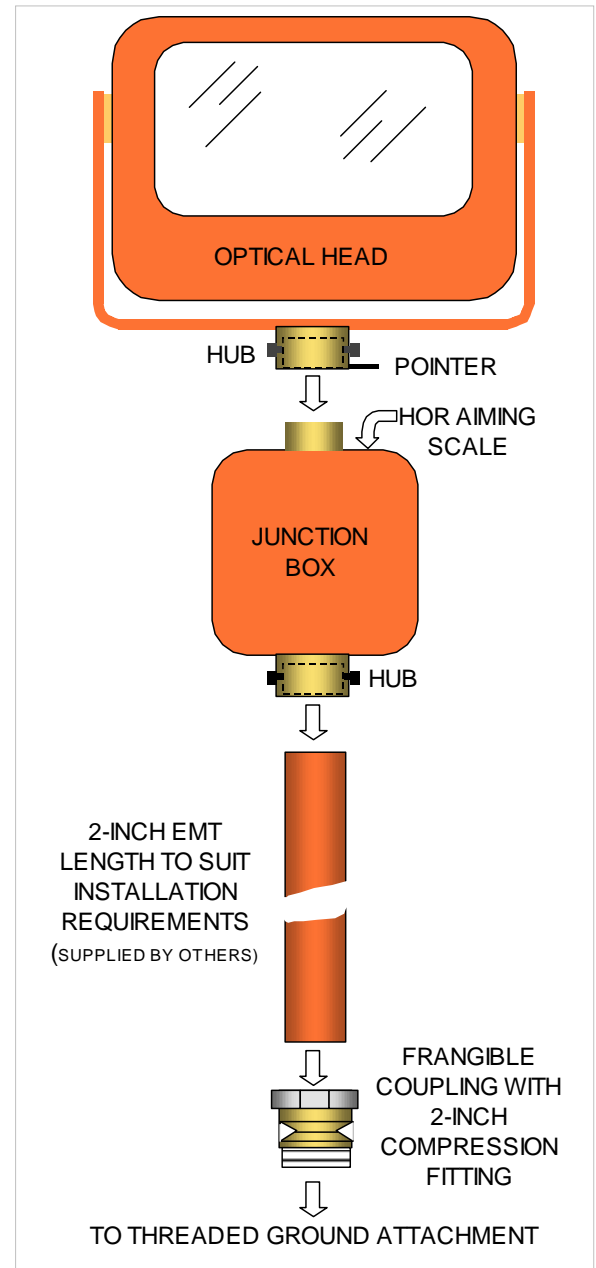

Fig 3
*Height is overall-See Figure 3.
Mounting details for the light units (whether separate or co-located) are shown in Figure 3.
Each Junction Box is supported by a single section of 2-inch EMT and various couplings as shown in Figure 3. The length of the EMT will generally be different from site to site; therefore it is not furnished with the equipment. The length is usually chosen to achieve a certain overall height above grade as called out on site drawings provided by others.
Mounting and Assembly Details (Refer to Figure 3)